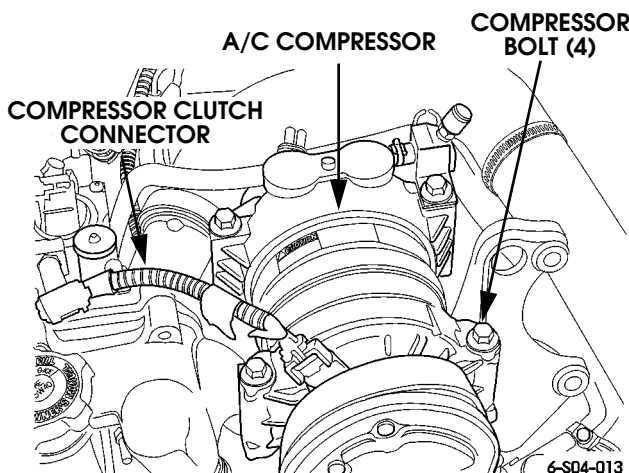

Figure 4-32: Compressor Clutch Bolt and Connector Location
5. Disconnect A/C compressor clutch wires (Figure 4-32).